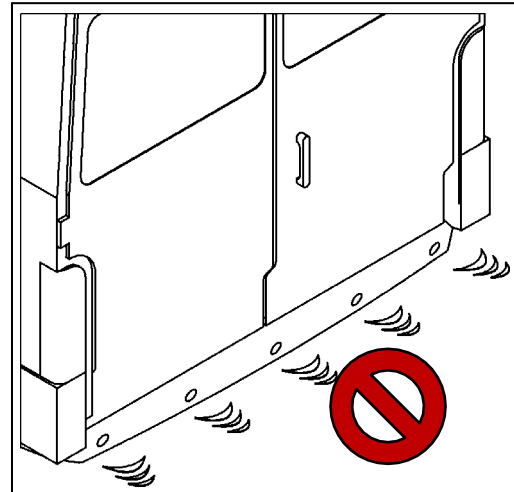

Figure 9
- For vehicles with rear parking sensors, the sensors will no longer function correctly once the platform is installed, because the lifting gear interferes with the sensors (see Fig. 9).